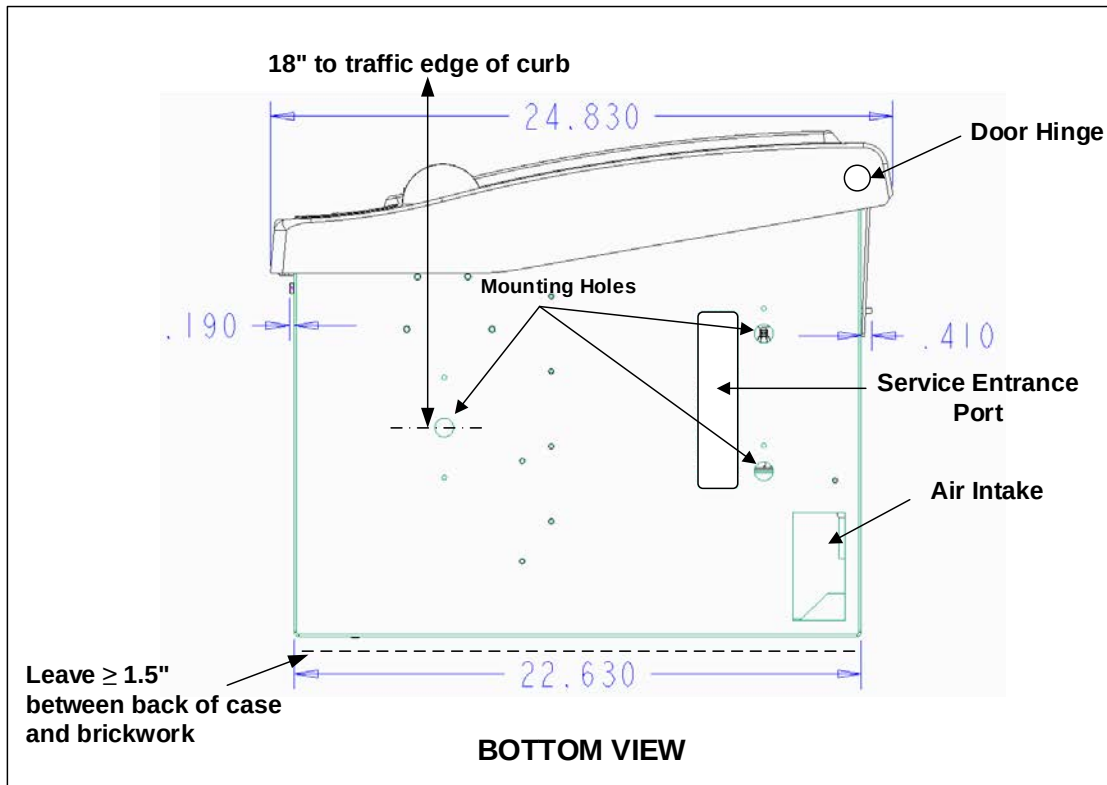
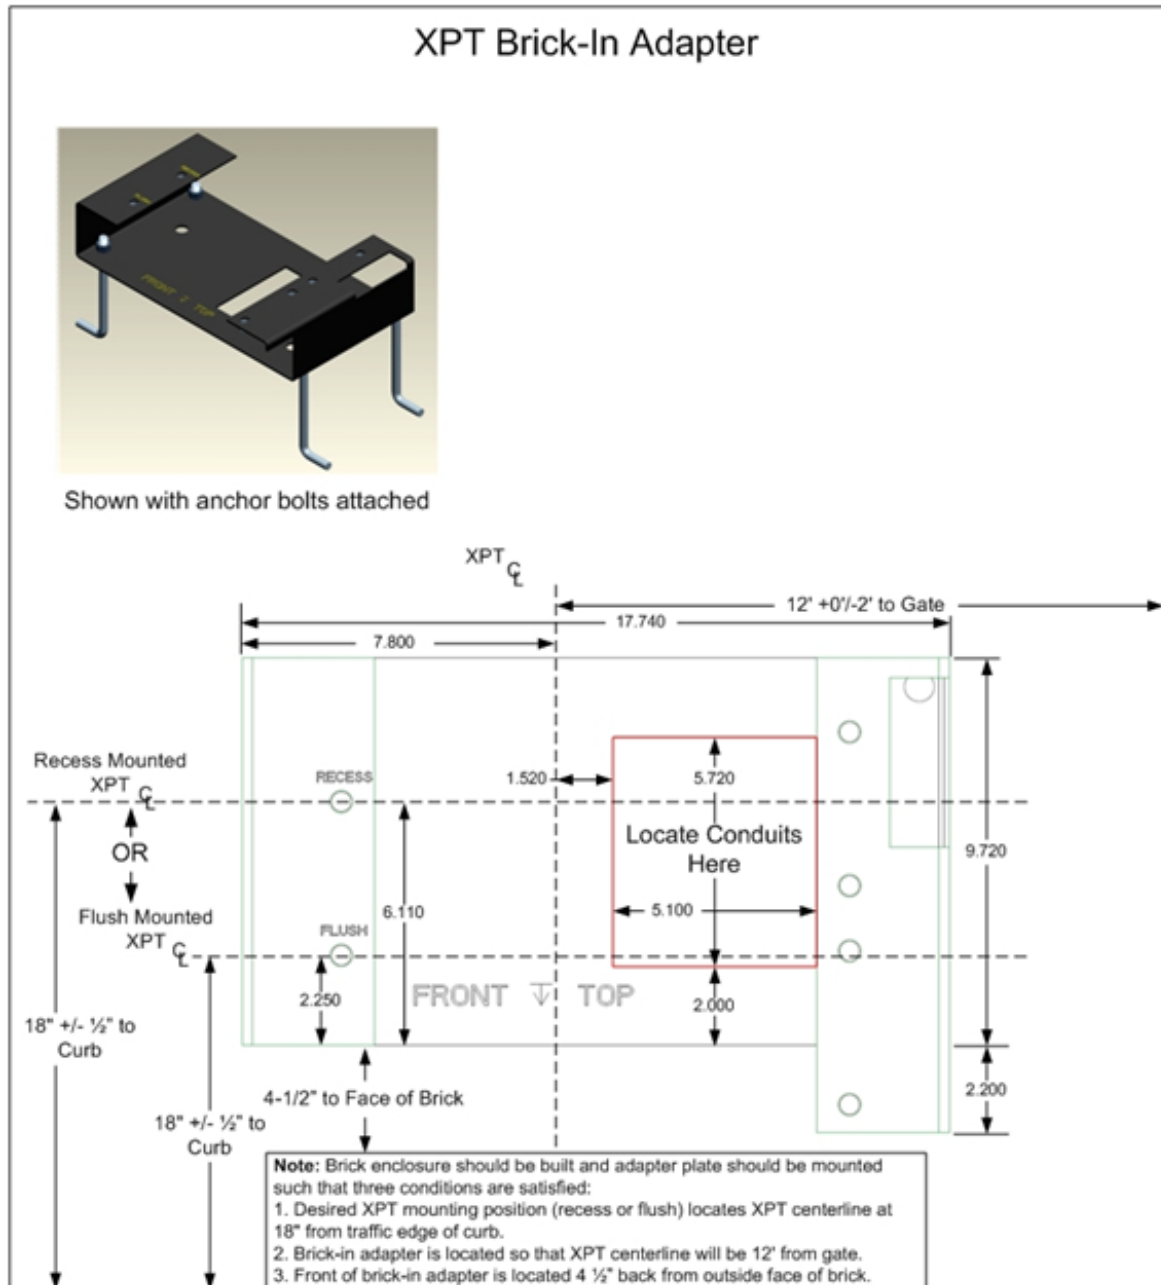

Figure 15. Bottom View of XPT
Figure 17. Brick-In Adapter
- Conduit should be placed to align with the rectangular cutout in the brick-in adapter plate, as shown in Figure 17. Figure 15 also provides a low-detail footprint of the bottom of the XPT.
The brick-in adapter does not share the same centerline with the XPT. Refer to Figure 17 to determine the installed XPT centerline relative to the brick-in adapter.
3. Verify conduits are properly located according to the cutout in the brick-in adapter, as shown in Figure 17.